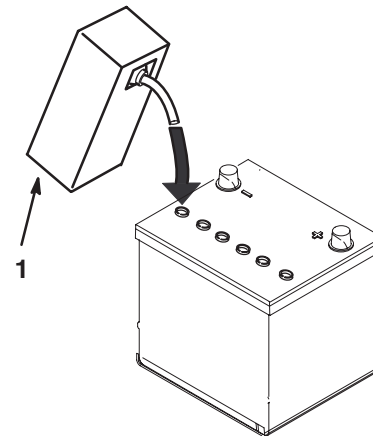

Figure 8
4. Allow approximately 20 to 30 minutes for the electrolyte to soak into the plates. Refill as necessary to bring the electrolyte to within about 1/4 inch (6 mm) of the bottom of the fill well (Fig. 8).